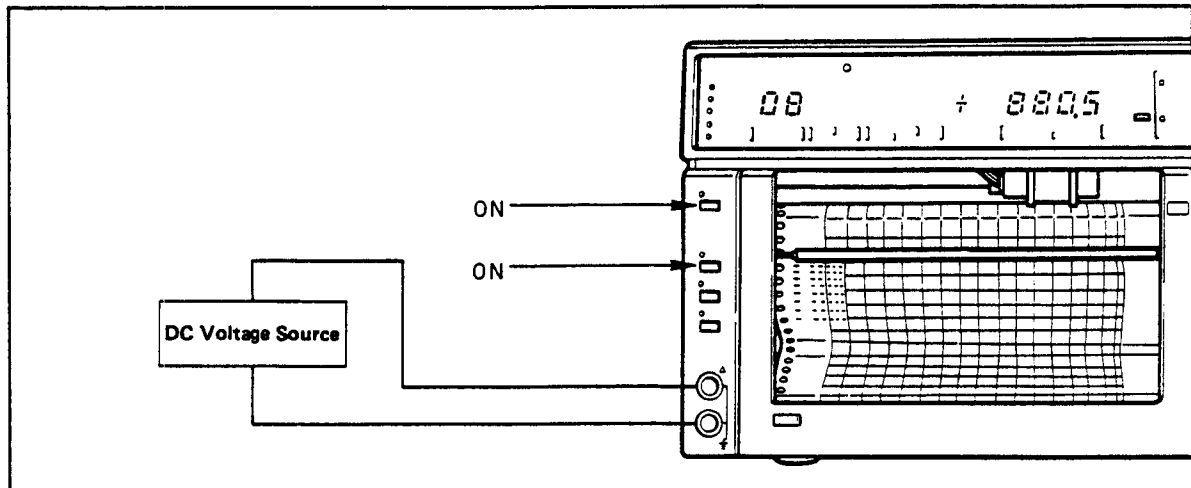

Figure 7-10. DC Voltage Measurement.
- (1) Turn ON the recorder POWER switch.
- (2) Press the DMM and DC keys.
- (3) Connect the measurement leads to terminals H and L and the other ends of the leads to the DC voltage source to be measured as shown in Figure 7-10. The terminal L should be connected to low potential terminal.
- (4) The measured value is displayed together with a polarity (polarity of the terminal H against that of the terminal L) and an engineering unit.